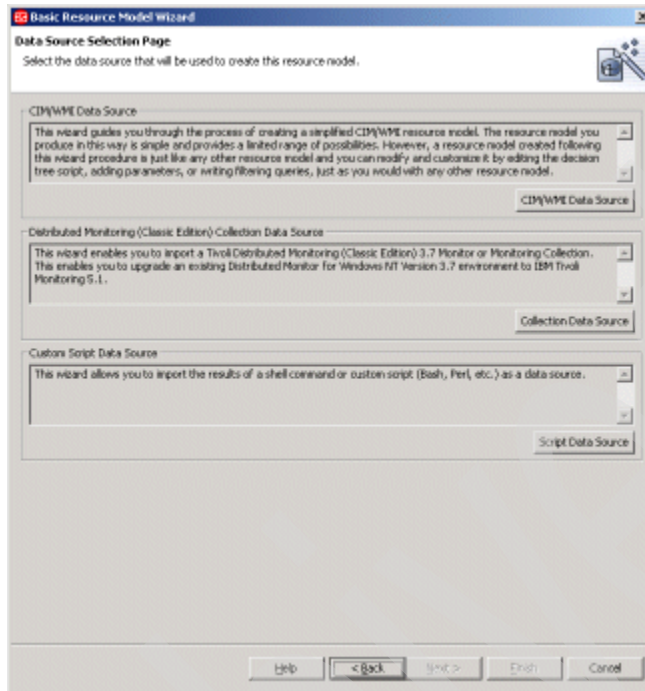

Figure 9-40 Basic Resource Model Wizard: Data Source Selection Page window.
10. Select **Next**. A window displays as shown in Figure 9-40 on page 462.